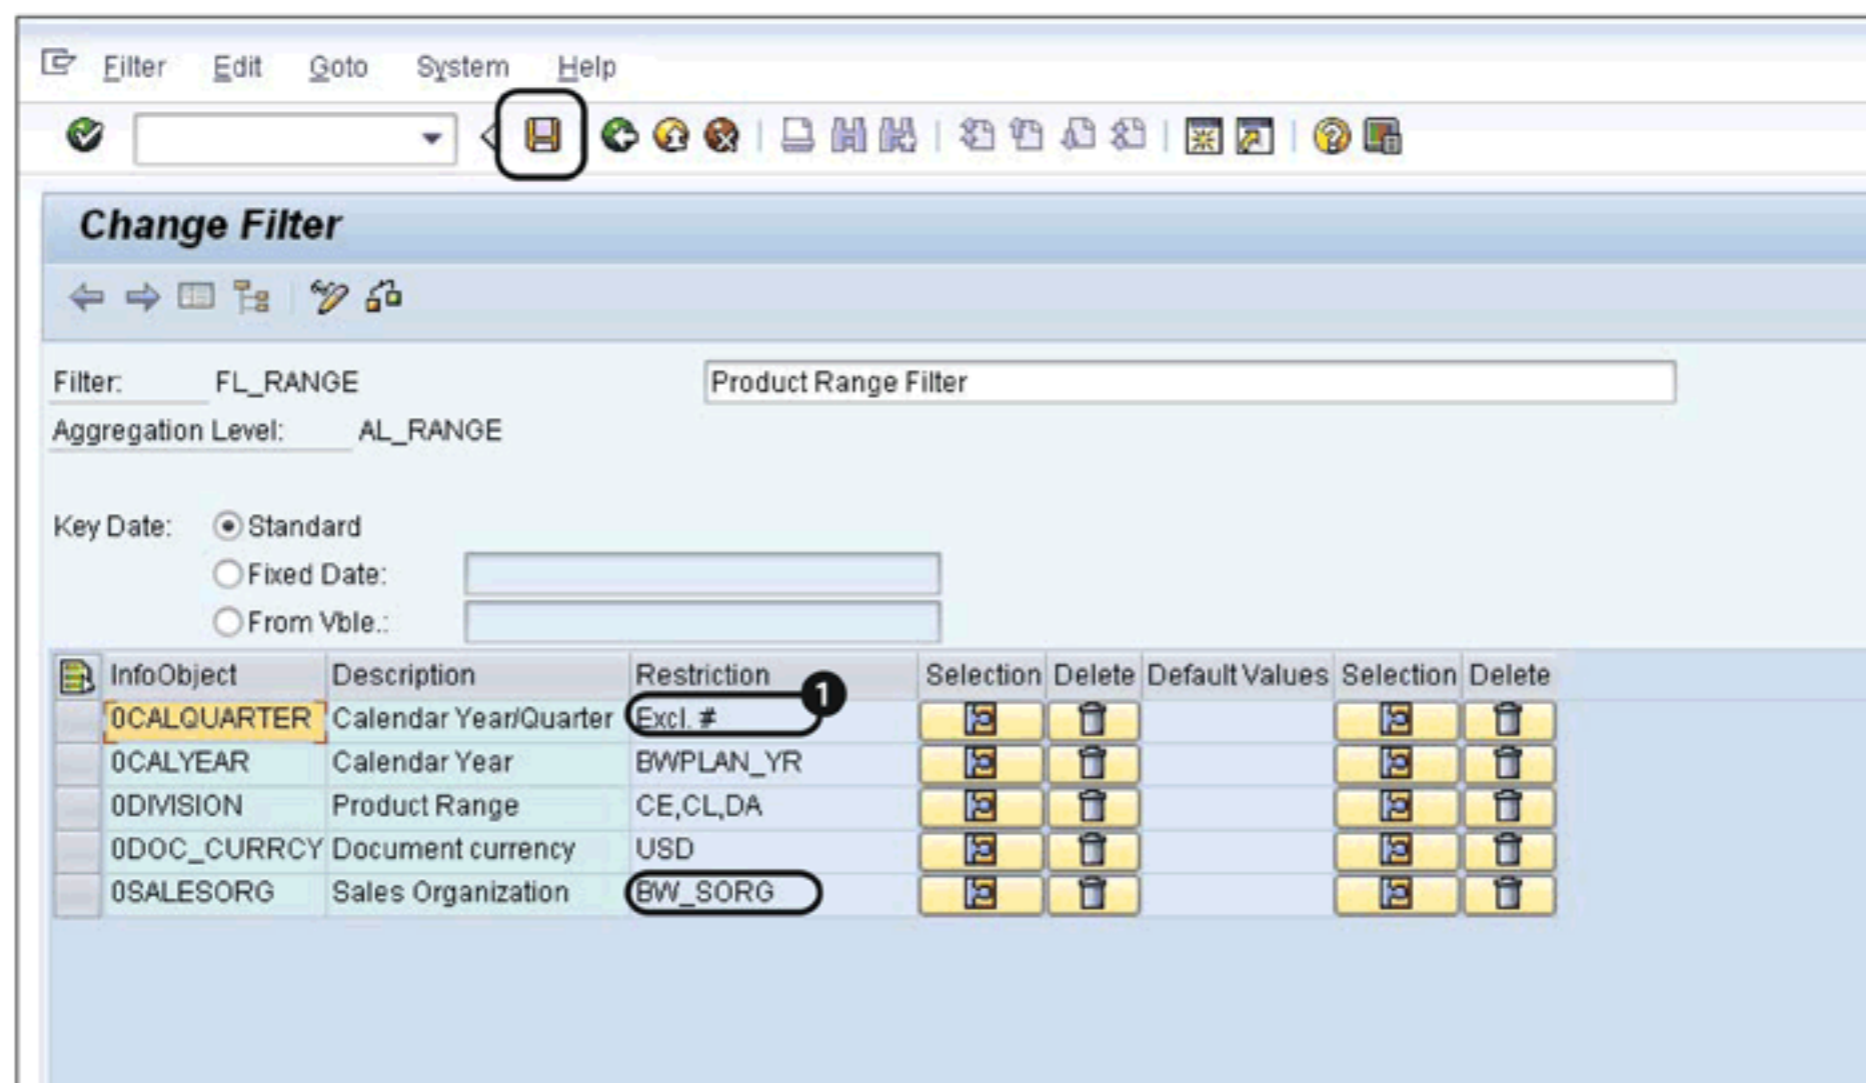

Figure 12.30 Define Filter Restrictions
Restrict the remaining characteristics of the FL_RANGE filter, as shown in Figure 12.30.
Note that the value for 0CALQUARTER is set to EXCL # (which means the value # is excluded from the filter) (1 of Figure 12.30). The sales organization characteristic (0SALESORG) is also restricted with a user entry variable, BW_SORG, which has a single mandatory entry (2).
After you've maintained all of the necessary restrictions to the filter, save it using the SAVE button shown in 3 of Figure 12.30.